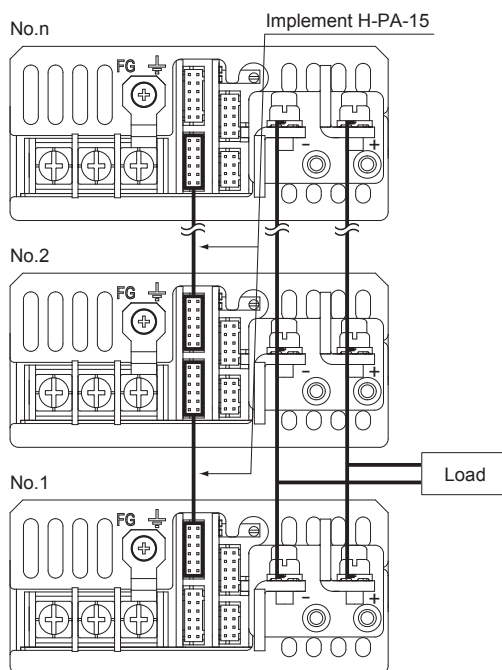

Fig.3.3 Connection method in parallel (PCA300F, PCA600F)
■ Wiring method with parallel operation is shown in Fig.3.3.